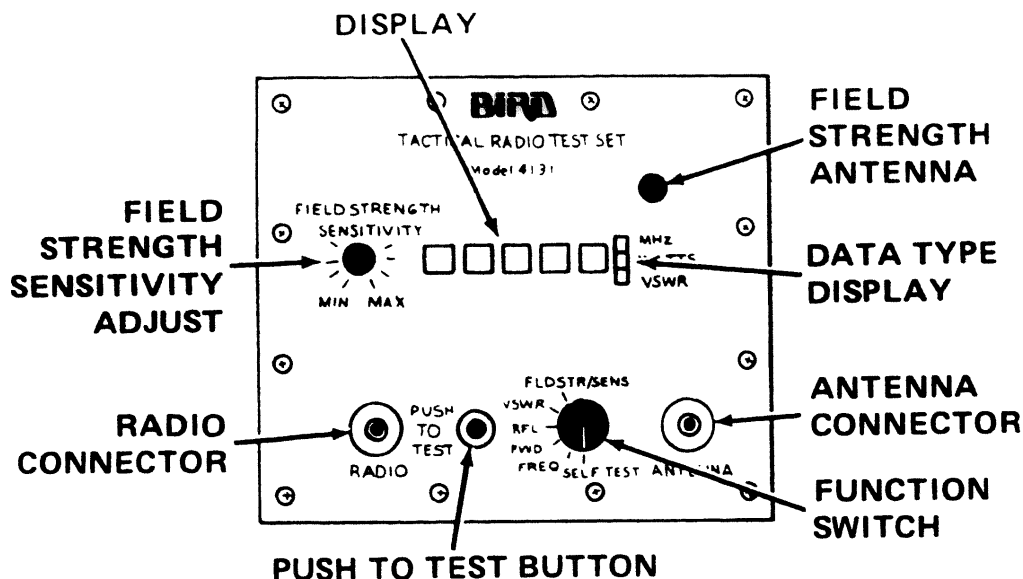

Figure 1-3. Front Panel
b. *Front Panel.* The connectors, various controls, and displays of the Model 4131 are located on the front panel. See figure 1-3. The front panel is hermetically sealed so that the unit can be operated under adverse weather conditions. Each of the items on the front panel are described in the following paragraphs.